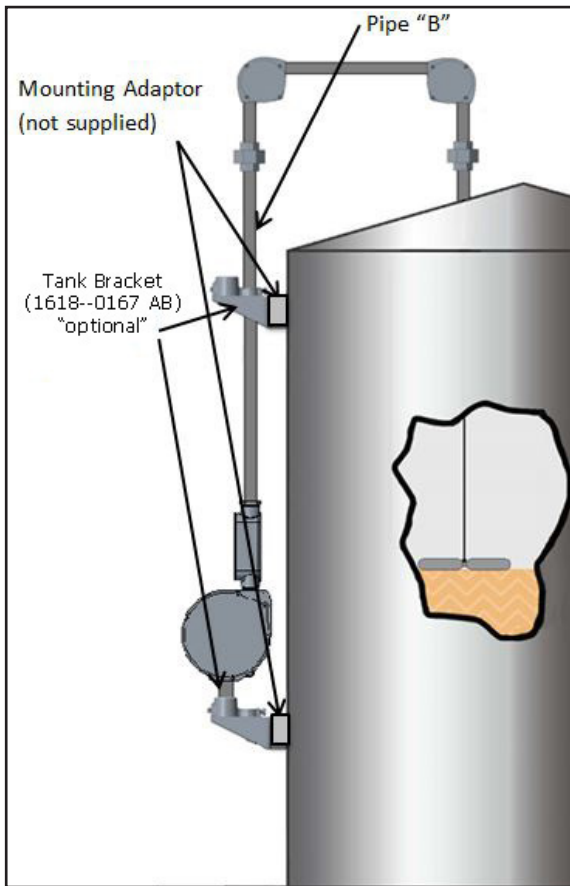

Figure 22
- (1) mounting adaptor, such as Unistrut or fabricated bracket fixed to the tank (see Figures 22, 23, and 24).